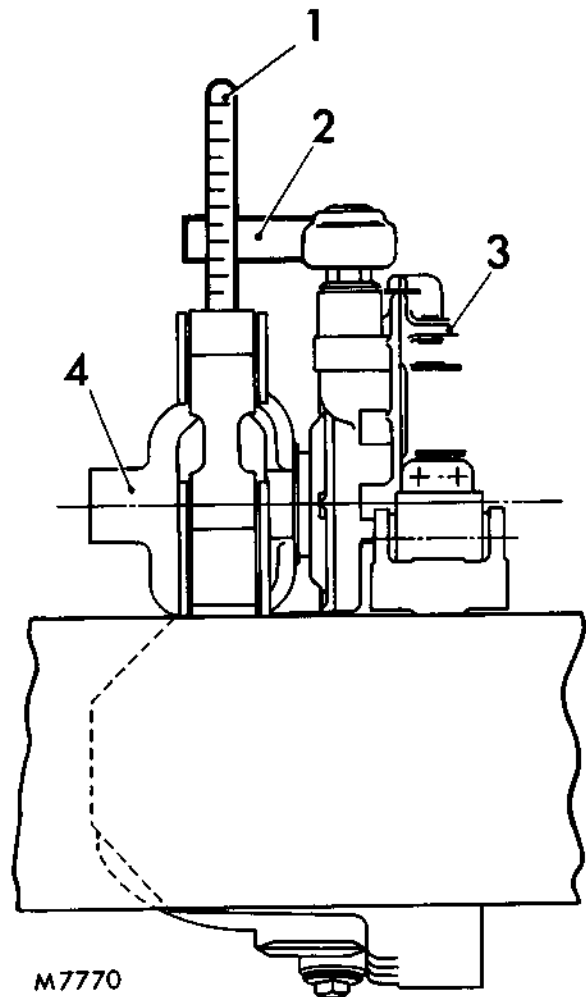

FIG. 2. CHECKING VERTICAL ALIGNMENT
- a. Two tools that can be manufactured locally to assist in checking the alignment are shown in Figs. 2 and 4.